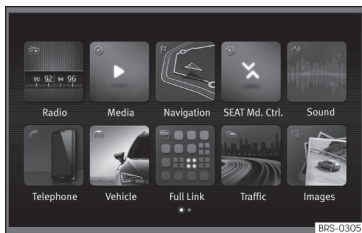

Fig. 50 Easy Connect: Main menu.
- Press the Infotainment button **MENU** and then the **Vehicle** function button **»» Fig. 50**.